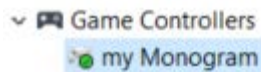

Figure 81 - Game Controllers Node, with a Creative Console Node named *my Monogram* Highlighted
1. In the DashBoard tree, expand the **Game Controllers** node and then double-click the Creative Console's node(Figure 81).